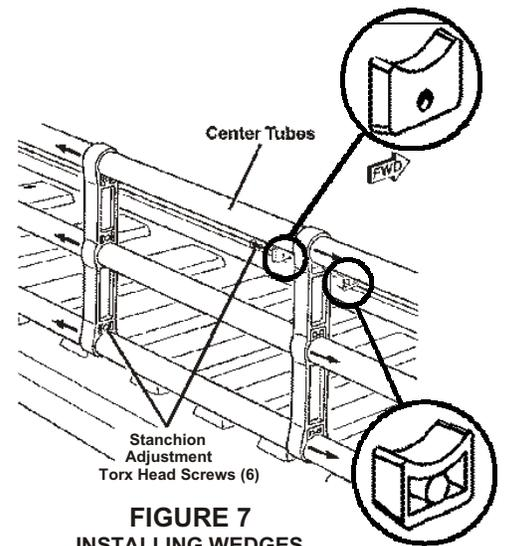

FIGURE 7
- STEP 9. Install Wedges as shown. The thicker Wedge inserts into the upright on the outside. The thinner Wedge installs on the inner portion, creating a "sandwich" of the Upright and of the Wedges. Note that the Wedges will only fit in one position and are to be flush with the surface of the uprights. (See Figure 7)
- STEP 10. Insert Stanchion Adjustment Torx Head Screws (one side only) and move center upright over curved tubes by tapping With a rubber mallet. (See Figure 7)